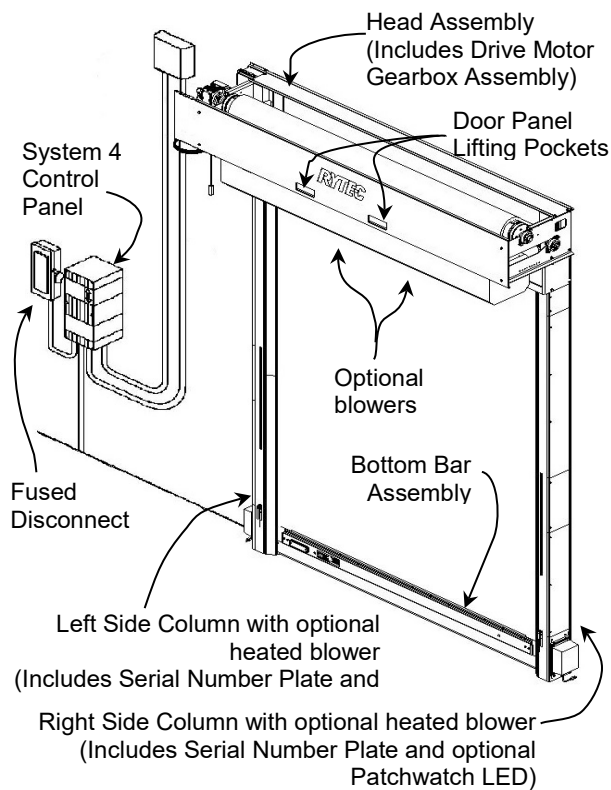

Figure 2
1. Install fused disconnect and Rytec control panel. (See Figure 2 for typical installation)
Figure 2 shows the location of the major components of the door and the general placement of the associated subassemblies for a typical installation.
NOTE: Figure 2 shows the front side of the door. Left and right are determined when viewing the front side of the door.